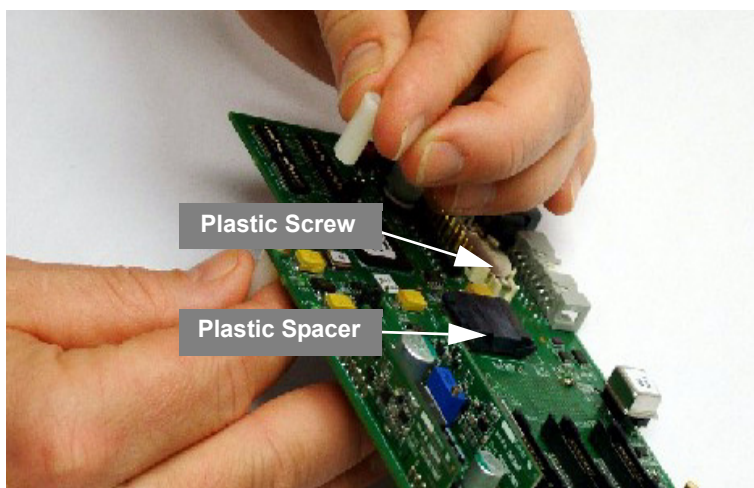

Figure 2-1. Connecting Plastic Spacers
1. *For Stand-Alone Mode only:* Connect the four plastic spacers. See Figure 2-1.